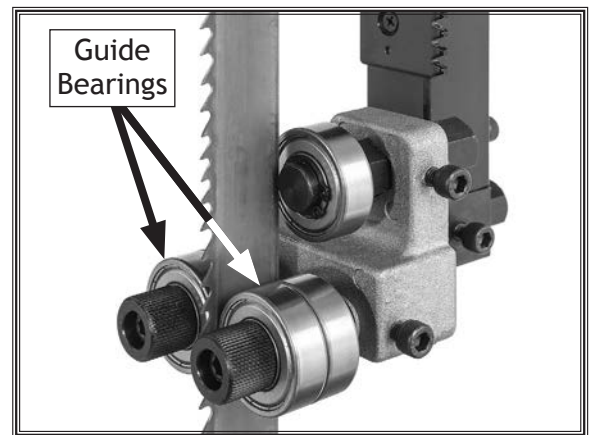

Figure 51. Upper blade guide roller bearing assembly installed (guide post cover removed for clarity).
4. Install upper blade guide bearing assembly on guide post (see **Figure 51**). Finger-tighten cap screws.